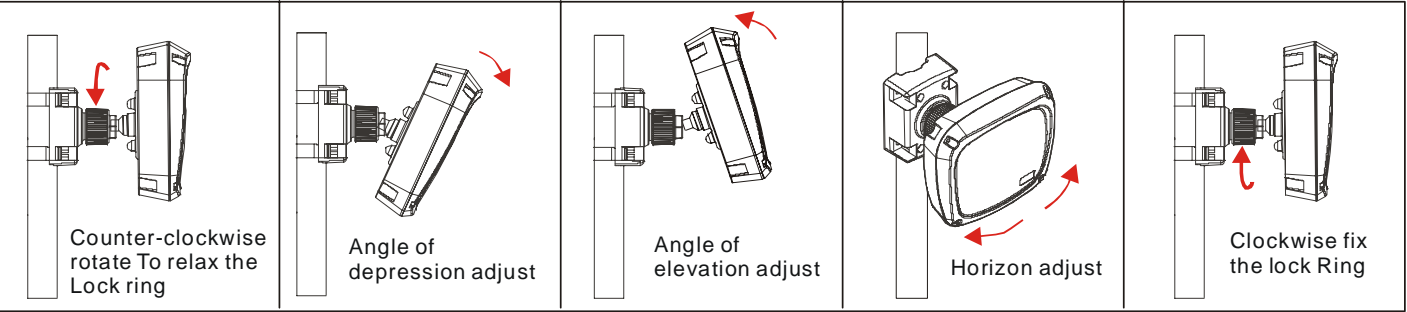

Fig 14
Adjustment: See fig. 14, first counter-clockwise rotate the lock ring to relax the T or R, then adjust its position till it focus the other half, at last clockwise fix the lock ring.
4. Refer to fig. 14 to adjust and align the R&T, first try to extinguish the Green LED to the least, then make ANALOG output voltage reach max value (suggest adjust at least 1 Green LED extinguished)